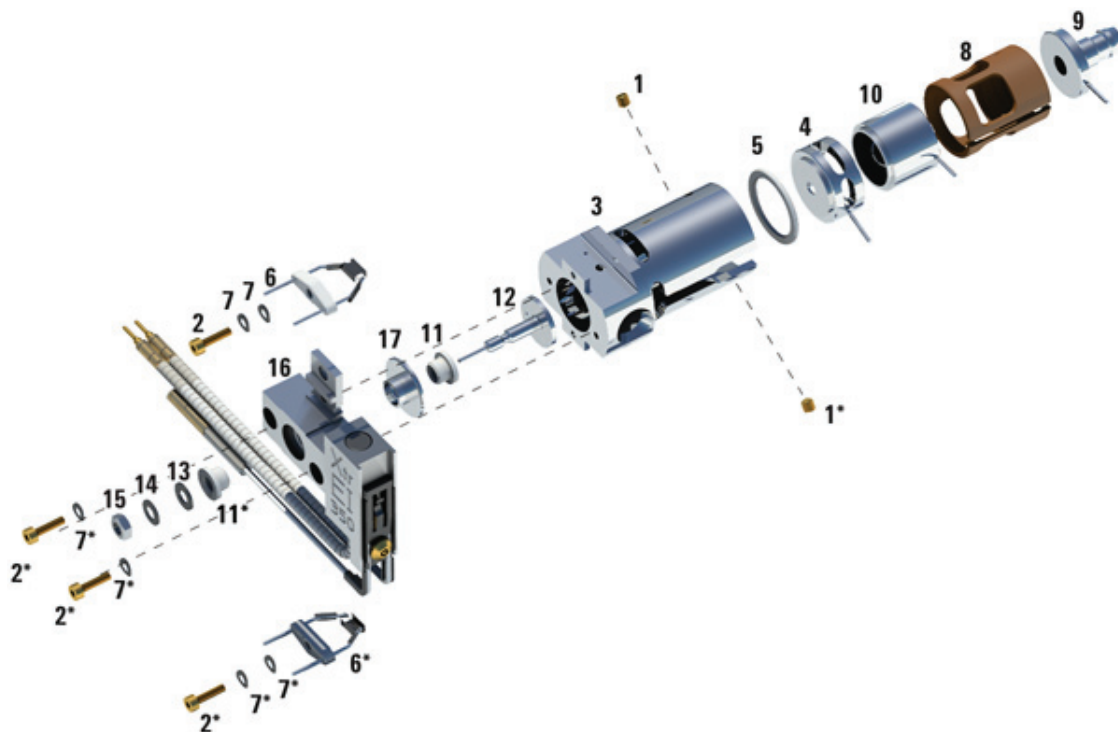

Figure 58. Disassembling the EI HydroInert source
Refer to the exploded parts view **Figure 58** and the EI HydroInert parts list **Table 21** on page 179 while using this procedure.
**Table 21** Parts list for EI HydroInert source (Figure 58)
**Table 21** Parts list for EI HydroInert source (Figure 58) (continued)